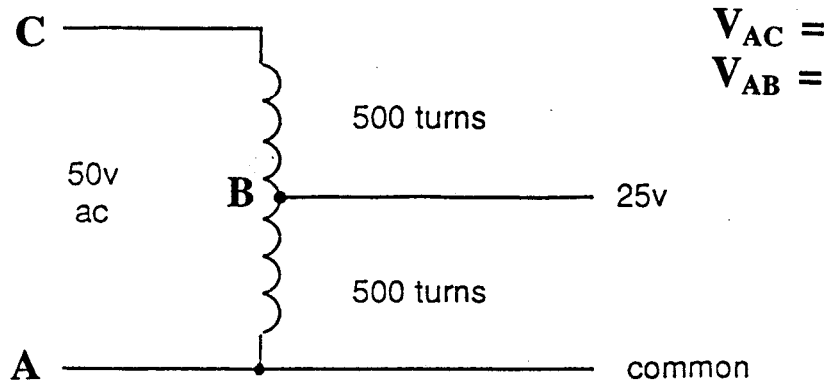

Fig.4
- Switch on the unit and measure the voltage between points A and B in fig 4. If you measure the voltage across points A and C, because both halves of the winding are the same, you should find that A and B, is exactly half. Switch off the unit.
- Reconnect the supply to points A-B. Switch on the unit and measure the voltage across A and C. This shows that the auto transformer can also be used to step up the voltage as well as step down. Fig 4 shows how this is achieved. Switch off the unit.